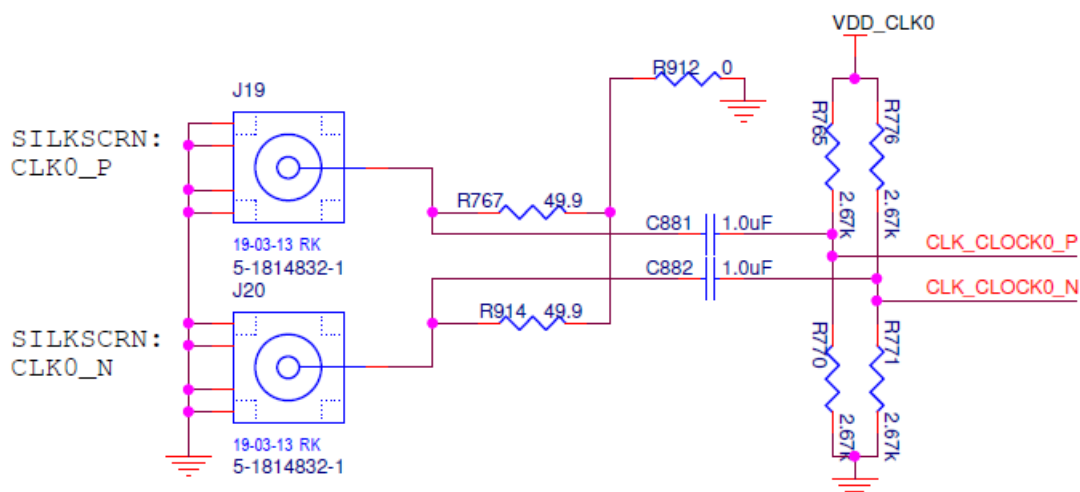

Figure 14. AC Coupling and Terminations for Input Clock
The following rework must be implemented in order to support a 1PPS input clock. All input clocks for this board are AC-coupled and terminated as shown in Figure 14.
1. In Figure 14, to make CLK0 supportive of 1PPS input, first configure CLK0 as LVCMOS in Timing Commander (see Figure 15).